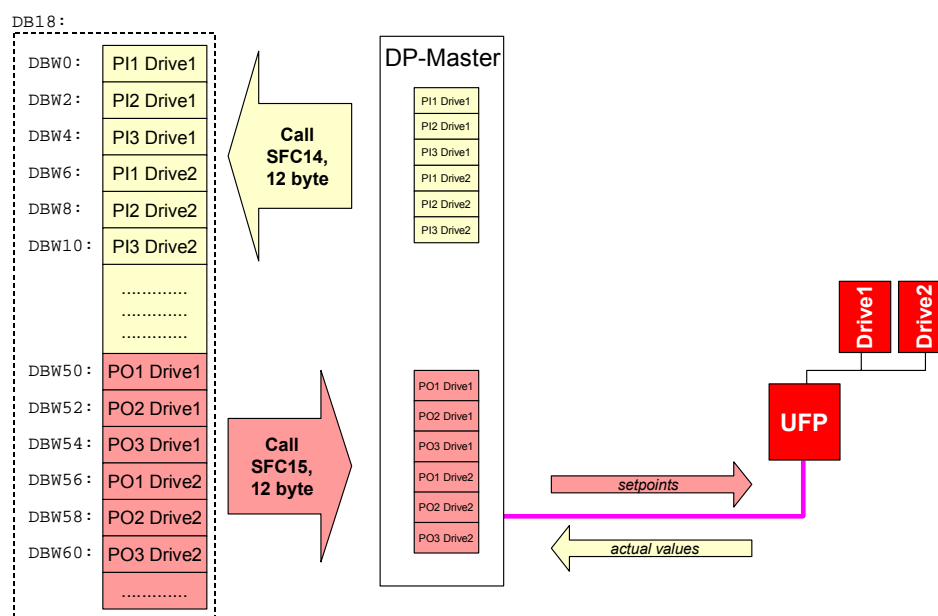

Bild 1: Concept of program example 1
- Open the Hardware Catalog and connect the device „UFP“ of the folder „PROFIBUS DP / Additional Field Devices / Drives / SEW / DPV1“ to the PROFIBUS line (see Figure 1, no. 1).
- Choose the DP configuration „**AS 2 Drives (6PD)**“ and insert this module to slot 0 (see figure 1, no. 2).